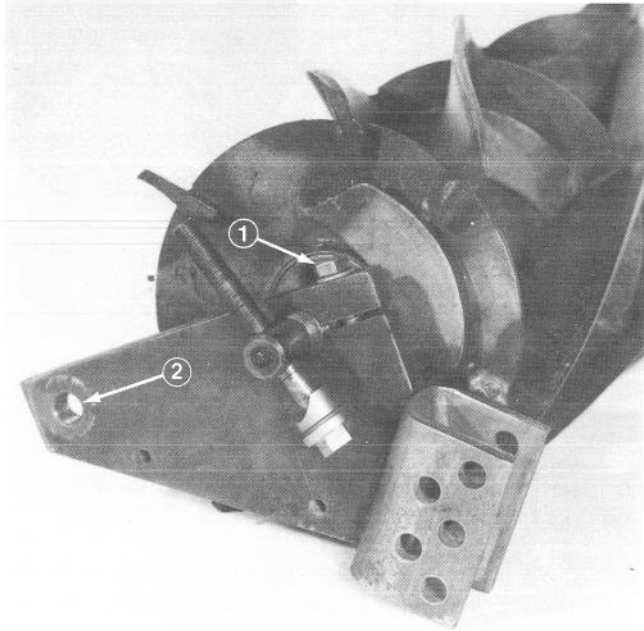
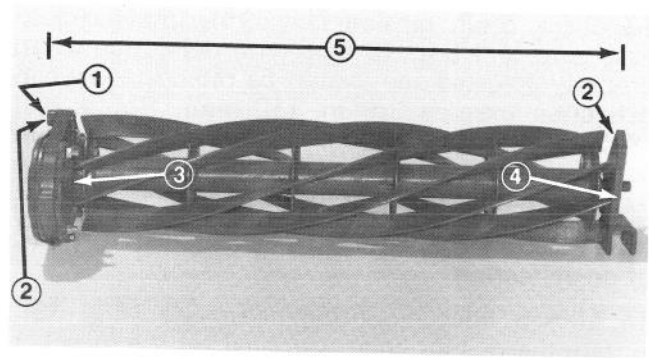

Figure 17
Figure 18
5. Thread reel side plate onto shaft, insert top portion of adjusting screw assembly into reel shaft and tighten side plate clamp screw (Fig. 17). Measure from outside of side plate to taper bolt boss on chain case (Fig. 18). Re-adjust if necessary to achieve a dimension of 33-3/8 in. (84.8 cm). One full turn of the side plate equals 1/16 in. (1.6 mm).